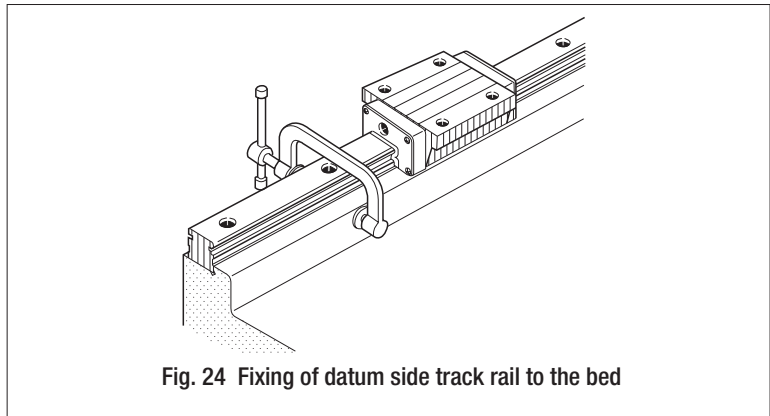

Fig. 24 Fixing of datum side track rail to the bed
- Firmly push the reference mounting surface of Linear Way I track rail to the mating reference mounting surface of the bed using a small vise or clamp. Tighten the track rail mounting bolt at the position where the vise or clamp is applied. Fix the track rail by progressively moving the position of the vise or clamp from one rail end to the other. (See Fig. 24.)